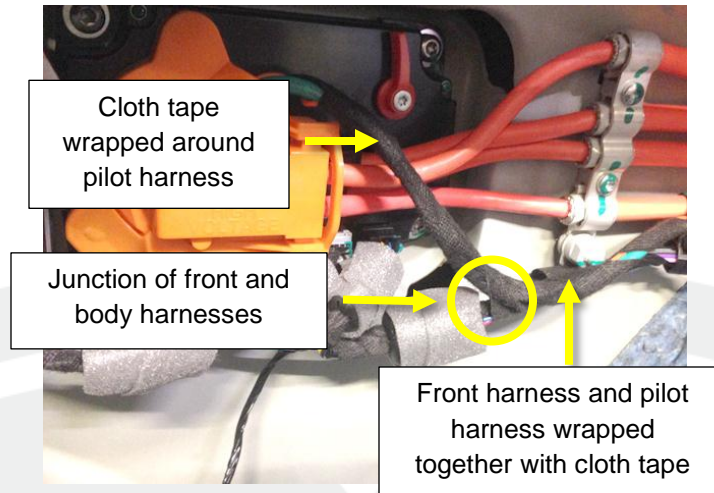

Figure 12
17. Identify the point where the front harness and body harness join together. Starting 4 in (100 mm) forward from this point and moving towards the rear of the vehicle, wrap cloth tape around both harnesses. At the point where the harnesses split, wrap cloth tape around the pilot harness all the way to the cable connector (Figure 12).